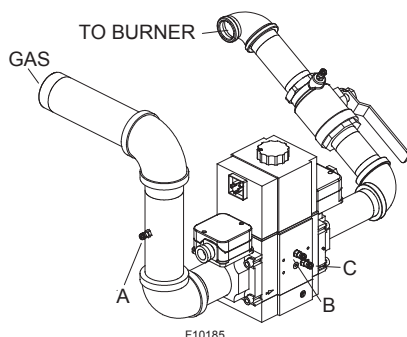

Figure 53. Gas Pressure Measurement Locations
2. Attach 12" scale manometer to an upstream bleedle valve on the gas supply pipe to the heater (Measure point "A" in **Figure 53**).
3. Attach 24" scale manometer to the manifold pressure tap located on the shutoff valve downstream of the firing valve (Measure point "D" in **Figure 53**).